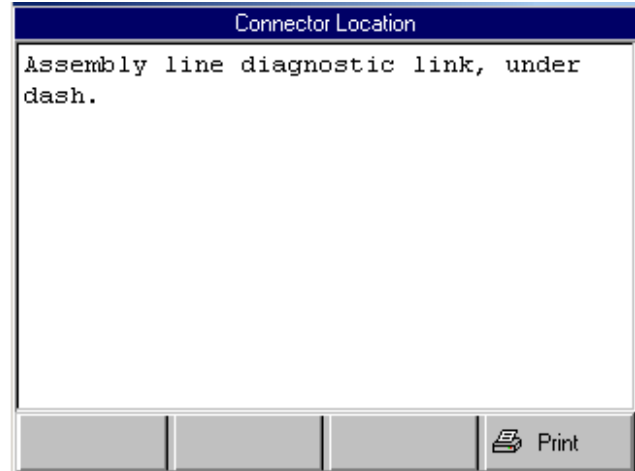

Figure 7.15: Connector Location Screen
- Select **Connector Location** and press the **ENTER** key to view a description of where the vehicle's data link connector (DLC) is located. This displays the Connector Location screen (see Figure 7.15).